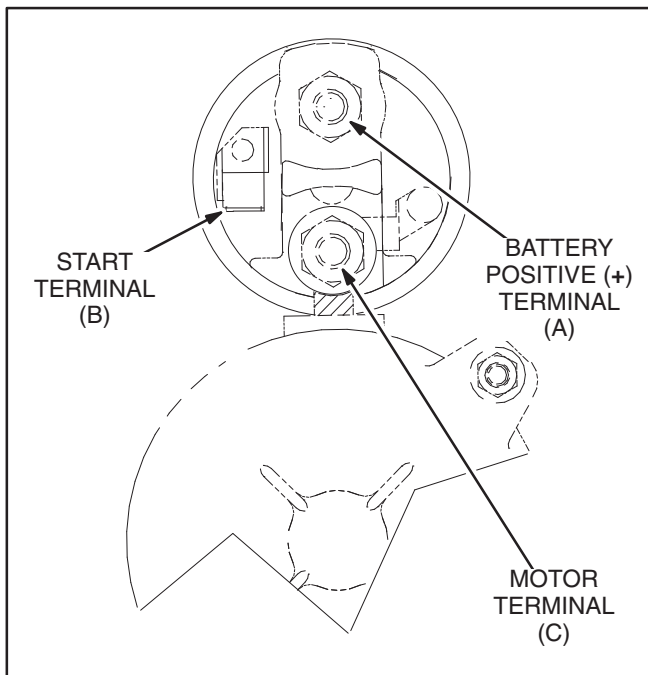

FIGURE 4-6. STARTER SOLENOID TERMINALS
For typical wiring connections at the starter solenoid, refer to Figure 4-6.
2. Disconnect the spark plug cable so that the engine will not start. Bypass the start circuit with a jumper between the start and the positive battery (+) terminal on the solenoid (Figure 4-6). If the engine cranks, the solenoid and starter are probably okay. If the engine does not crank, go to Step 3.
3. Bypass the starter solenoid with a jumper between the motor and the positive battery (+) terminal on the solenoid (Figure 4-6). If the motor responds, it is probably okay and it may only be necessary to replace the solenoid.